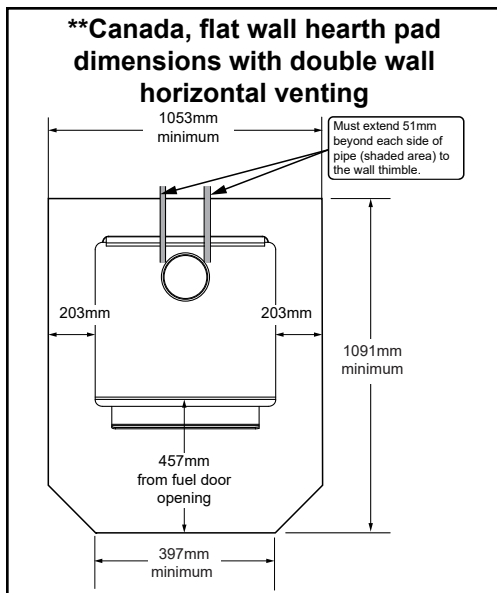

Figure 9.2 - \*\*This dimension will vary depending installation.
**In Canada,** similar floor protection must be provided 18 inches (457mm) in front and 8 inches (203mm) from the sides and rear of the appliance unless the hearth pad is placed against the wall (**Figure 9.2**). Then the clearance may be reduced using double wall pipe and the **Clearance to Combustibles** table listed on page 10.
**\*Exception:** Non-combustible floor protector must extend beneath the flue pipe when installed with horizontal venting and extend 2 inches (51mm) beyond each side (**Figure 9.2**).